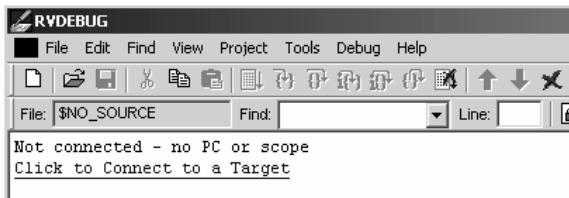

FIGURE 4 RealView Debugger's opening screen (upper left corner).
1. Start RealView Debugger and select the Click to Connect to Target (Figure 4) or the File | Connection | Connect to Target menu option.